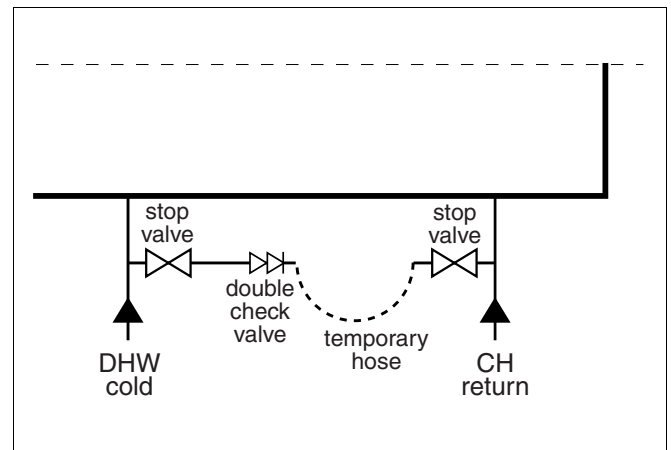

Fig. 4 Connecting temporary hose
- Connect temporary hose (fig. 4).